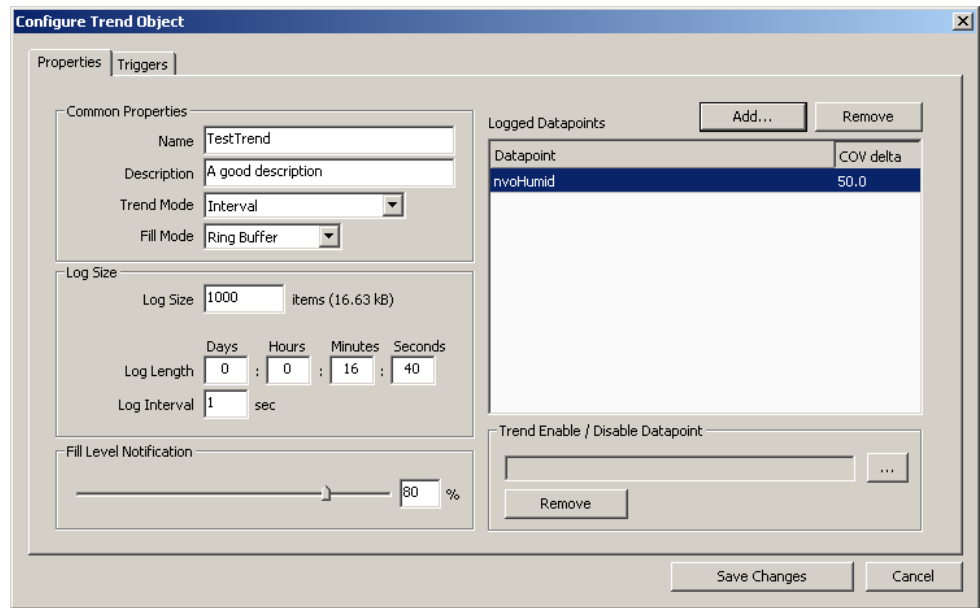

Figure 107: Basic Trend Object Configuration.
- In the **Create New Trend Object** dialog (shown in Figure 107) enter a name and optionally a description for the trend log object.